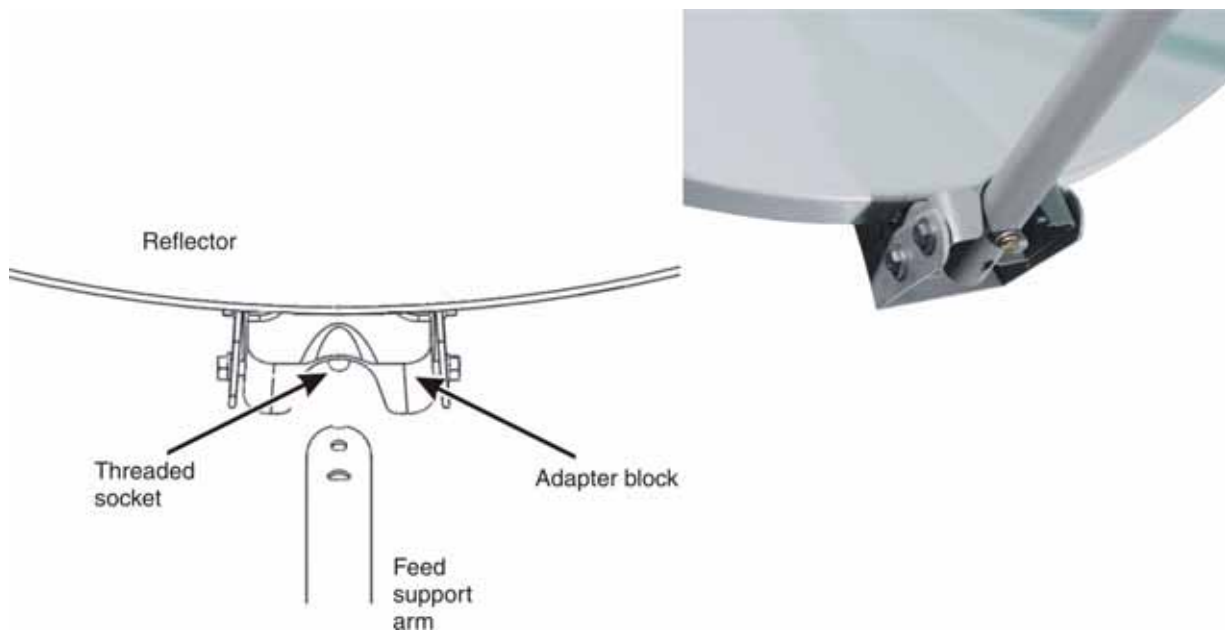

Figure 15: Attaching the feed support arm to the adapter block
1. Position the feed support arm underneath the adapter block as shown in Figure 15.
Note: There are two holes near the end of the feed support arm. Be sure to insert the bolt through the hole that is furthest from the end, as shown in Figure 15.